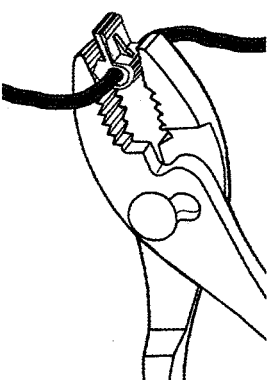

FIGURE 67
- 1.) USING PLIERS, ATTACH ONE SUPPLIED 3M CRIMP LOCK TO THE 12 VDC POWER SOURCE BLUE/BLACK WIRE AND ANOTHER ONE TO THE BLACK WIRE APPROXIMATELY 10 TO 20 MM FROM THE HARNESS BREAKOUT. PLACING THE 3M CRIMPS IN THIS LOCATION WILL FACILITATE REASSEMBLY. (SEE FIGURES 67 AND 68)